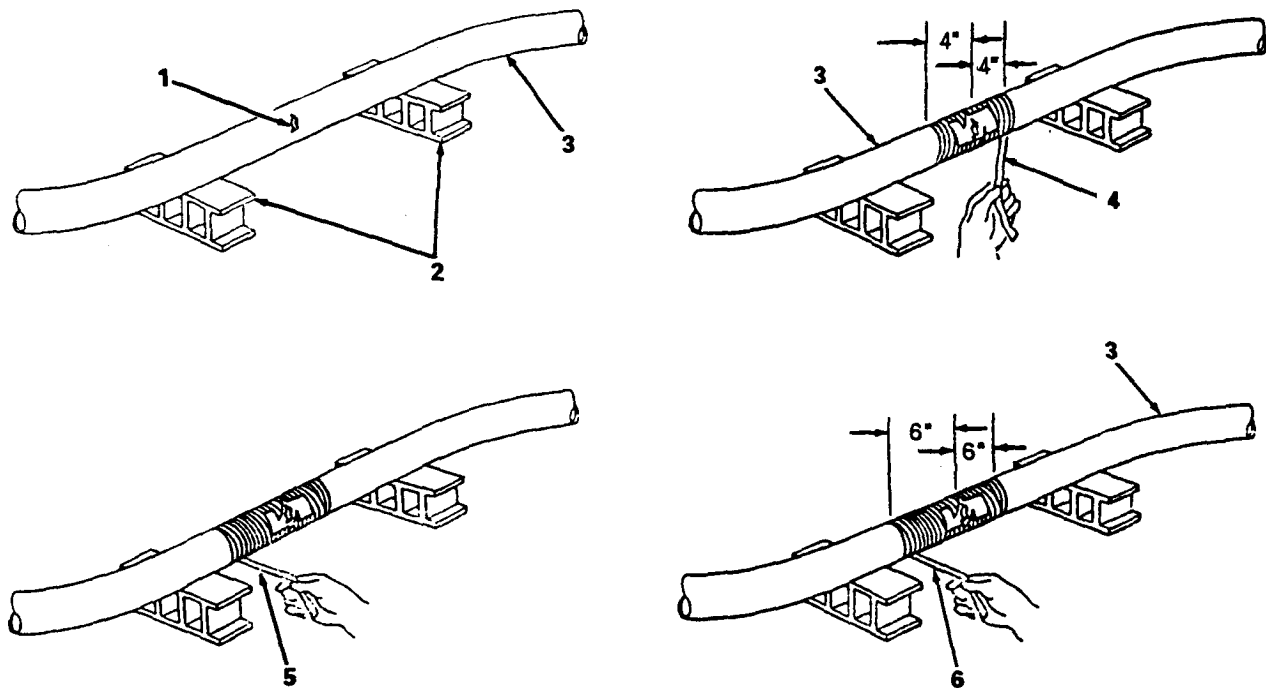

Figure 3-7. Minor Leaks, Repair.
- (1) *Minor leaks. (Figure 3-7)*